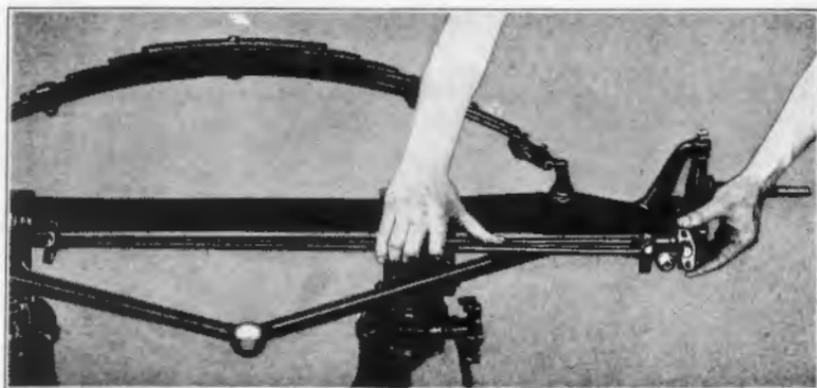

Fig. 374
- 693 Place a little cup grease in the ball sockets on each end of steering gear connecting rod and assemble rod to yoke ball by placing a ball socket cap over yoke ball (See Fig. 374), and assembling cap to socket by inserting the two bolts through cap and ball socket. When